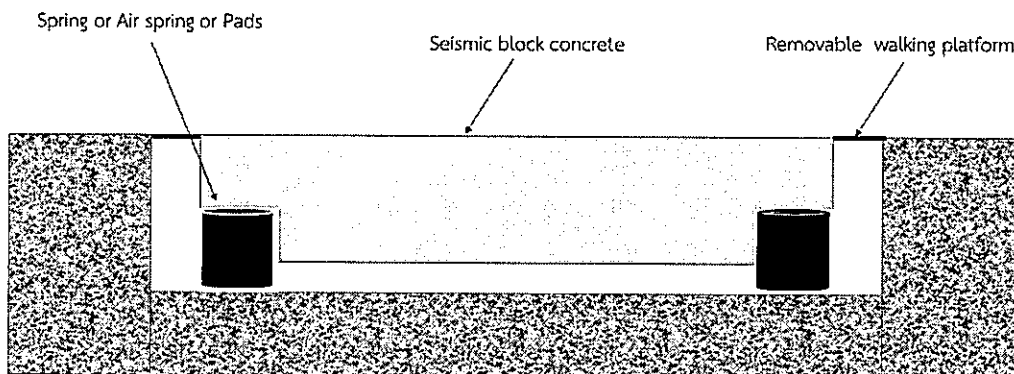

Figure 7: Example of an installation of Foundation Isolator
- 3.3 In case of installation which requires maintenance area (according to Figure 7), a removable walking platform must be installed when there is no need for access to maintenance area. However, such installation may be different to Figure 7 if it is more appropriate or effective.